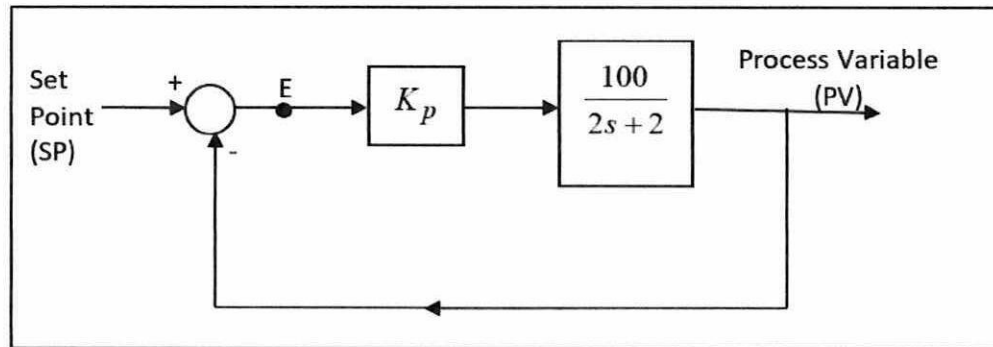

Figure Q5(d)
Q5 (a) Figure Q5(a) shows a Time Response for a second order system.
- (d) The P (proportional) controller block diagram for temperature regulation for steam distillation is as shown in **Figure Q5(d)**.